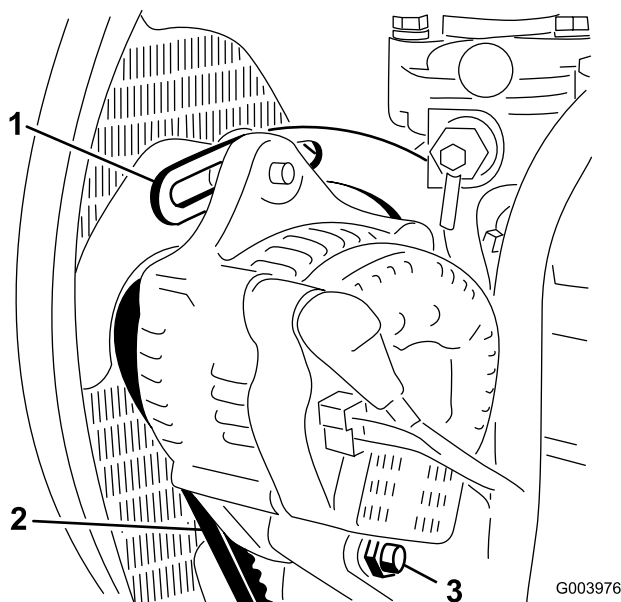

Figure 75
2. Check the tension of the alternator belt by depressing it (Figure 75) midway between the alternator and the crankshaft pulleys with 22 lb (10 kg) of force.
3. Loosen the bolt securing the brace to the engine (Figure 75), the bolt securing the alternator to the brace and the pivot bolt.